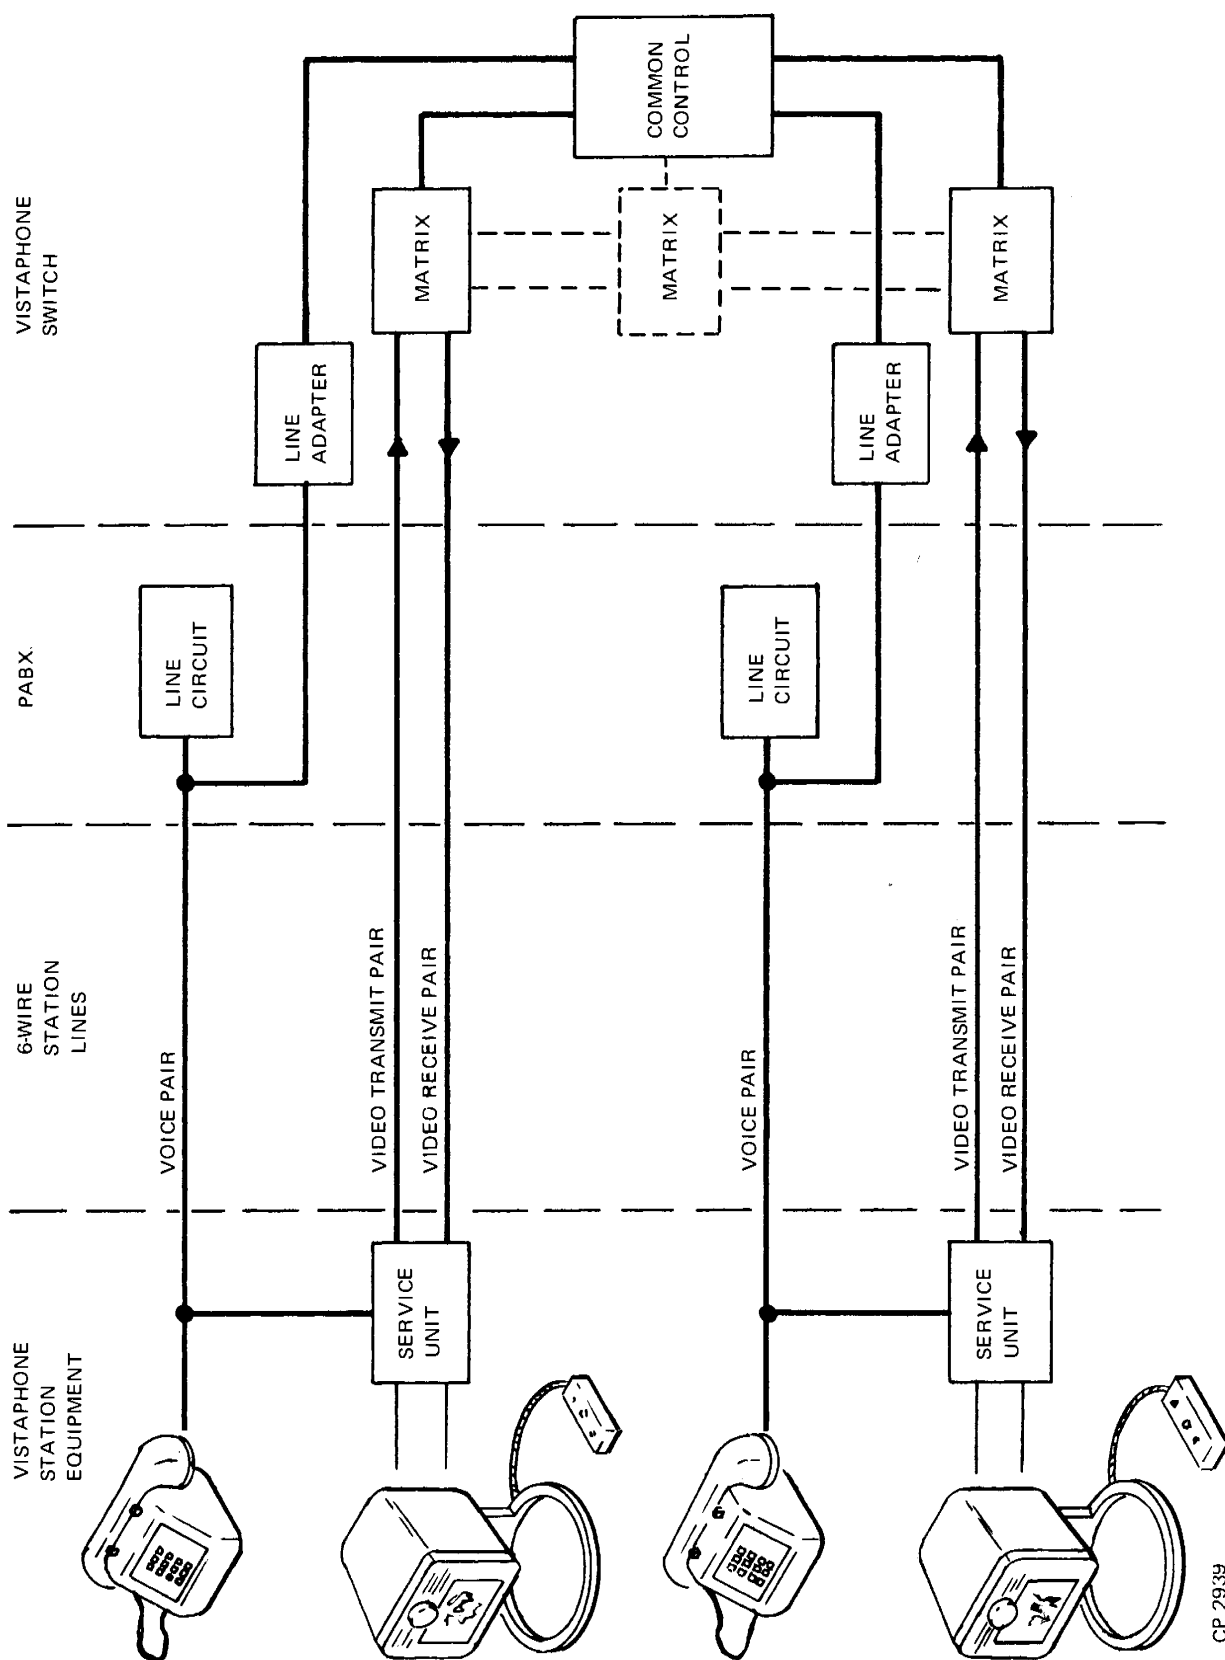

Figure 4. Intra-PABX Call.
6.01 The PABX switching equipment provides a means of connecting the calling station line to the desired called station line. When the calling party keys or dials the number of the called station, the PABX establishes an audio connection between the calling and called station lines; and it applies ringing voltage to the called station line (fig. 4). The ringing is detected by a line adapter, which is bridged on to the line circuit. The line adapter monitors for answer supervision (loop closure). When the loop is closed, the line adapter sends a service request to the common control of the VISTAPHONE switch, which finds and marks the *called* line. A tone is then applied through the line adapter to the *called* line. The tone is forwarded over the audio path and detected by the line adapter of the *calling* line. The detection of the tone marks the *calling* line. With both the *calling* and *called* lines marked, establishment of the video connection is enabled. The common control assigns an idle video link and applies a video supervisory signal (VSS) to each station before completely cutting through. The VSS signals turn both video displays on. The matrix now closes the 4-wire video path; the original audio path through the PABX remains cut through. The video connection through the matrix is now under control of the sleeve lead.